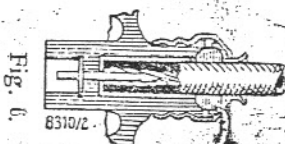

Fig. 6.
3. Push the rubber packing and the bushing down until they are firmly seated and tighten them with the cap nut (Fig. 6).